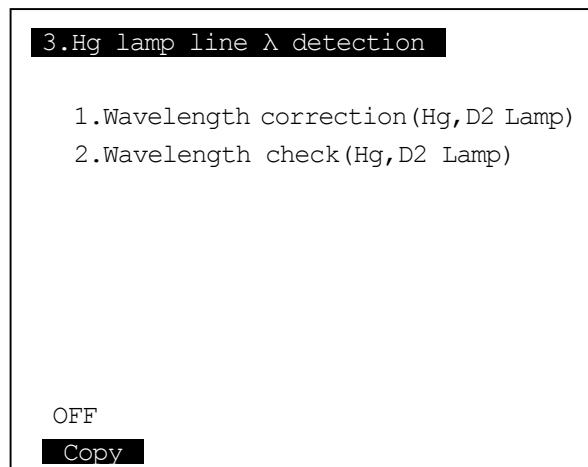

Fig. 8-12 Hg/D2 lamp line wavelength detection screen
- 2) “Hg lamp line  $\lambda$  detection” screen will be displayed. (see Fig.8-12 )